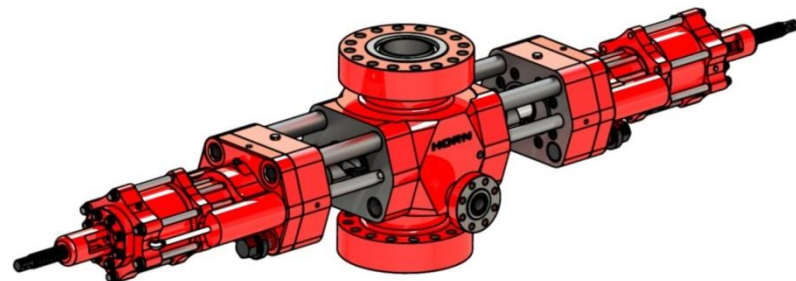

Figure 27: Bonnets Opened
- b. Continue applying pressure until bonnets are fully extended from the body. (figure 27)